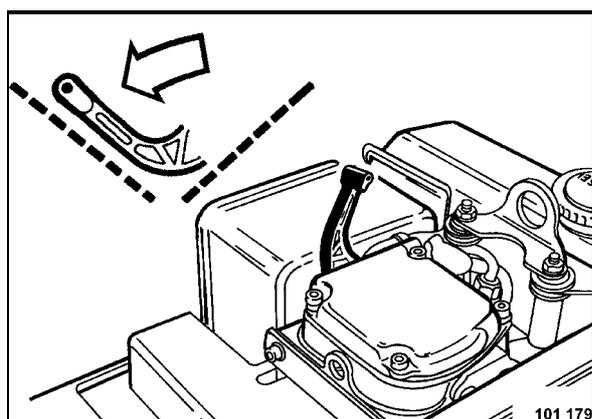

Fig. 21
- Pull the decompression lever (Fig. 21) in direction of arrow to the end stop.